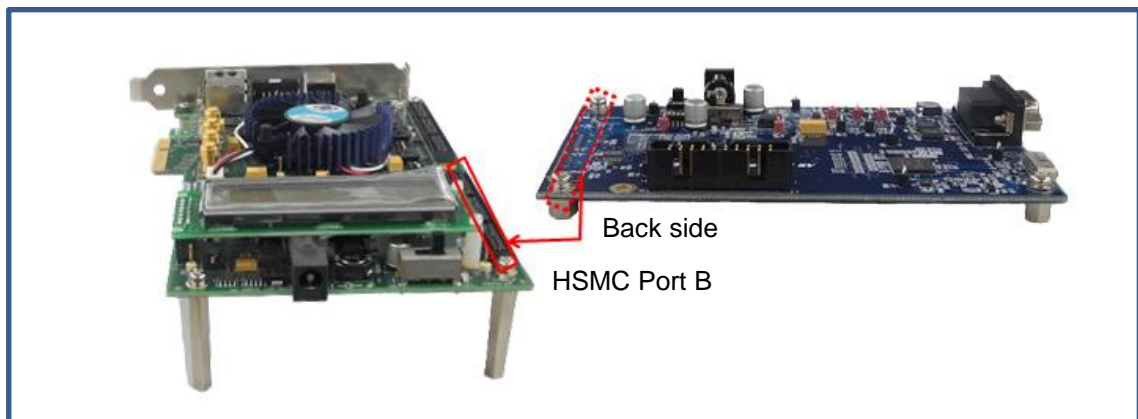

Fig. 5-1 Connection procedure for this Board
- 1, Connect this board to HSMC port B on the Cyclone IV board. (see Fig. 5-1)